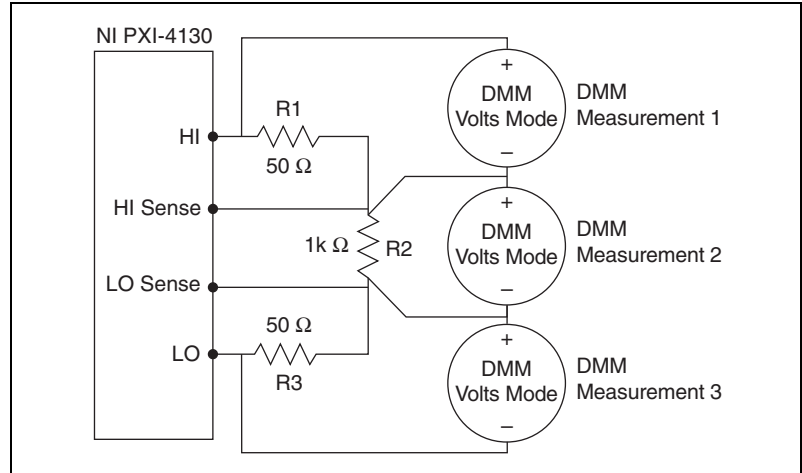

Figure 5. Remote Sense Output Verification Connection Diagram
1. Connect the $50\ \Omega$ (R_1), $1\ \text{k}\Omega$ (R_2), and $50\ \Omega$ (R_3) resistors in series, with the $1\ \text{k}\Omega$ resistor being the center resistor as shown in Figure 5.
2. Connect the resistors to the HI and LO terminals on the NI PXI-4130 as shown in Figure 5. Connect the remote sense leads directly across the $1\ \text{k}\Omega$ resistor (R_2).